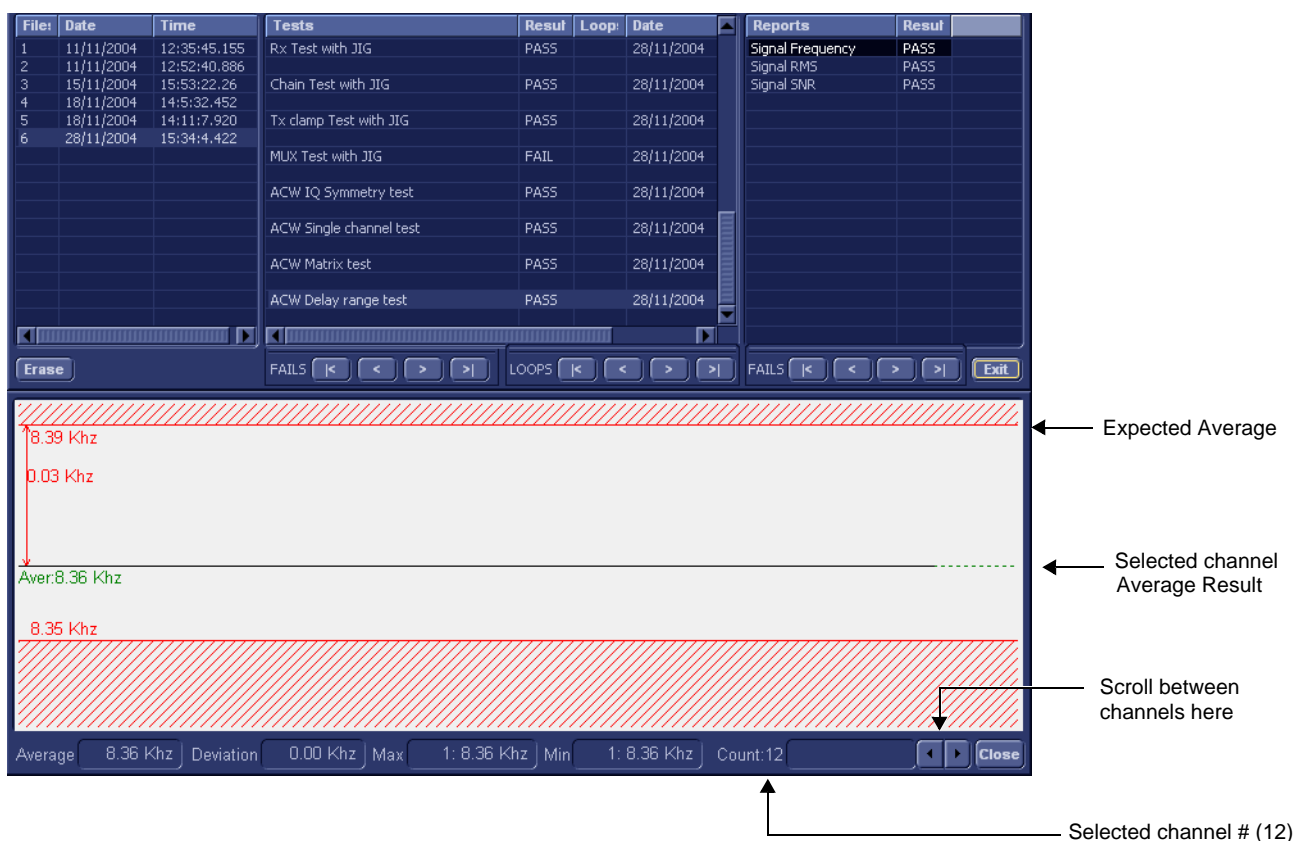

Figure 7-42 View Test Log - ACW Delay Range Test - Signal Frequency
- the View Test Log window opens automatically, listing all tests performed and showing details of which tests passed or failed, as shown in the example in Figure 7-42.
Note: The ACW Delay Range Test test has three test reports (*Signal Frequency*, *Signal RMS*, and *Signal SNR*) which are listed in the *Reports* window on the right. By default, the *Signal Frequency* report is displayed in the *Reports* window below (Figure 7-42).
The signal should be within the limits marked in the white area (the dotted line represents the Average), as shown in Figure 7-42.